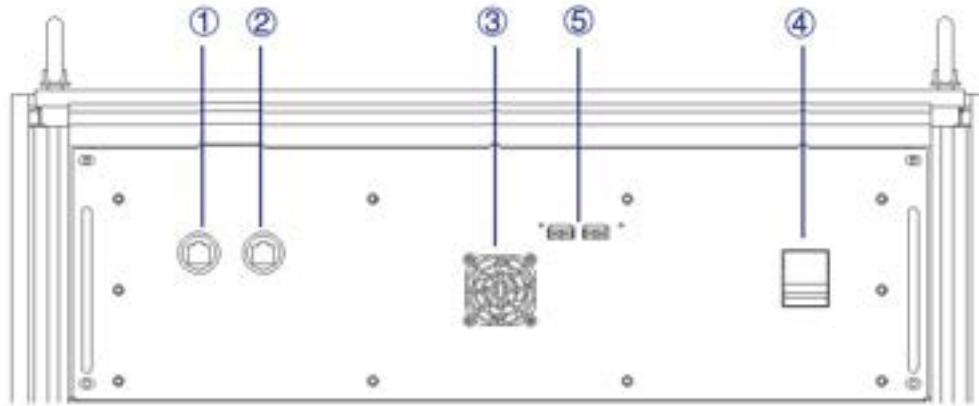

Figure 1-22 Control module of front panel
The master slaver interface is located on the front panel of control box, as shown in Figure 1-22⑤.